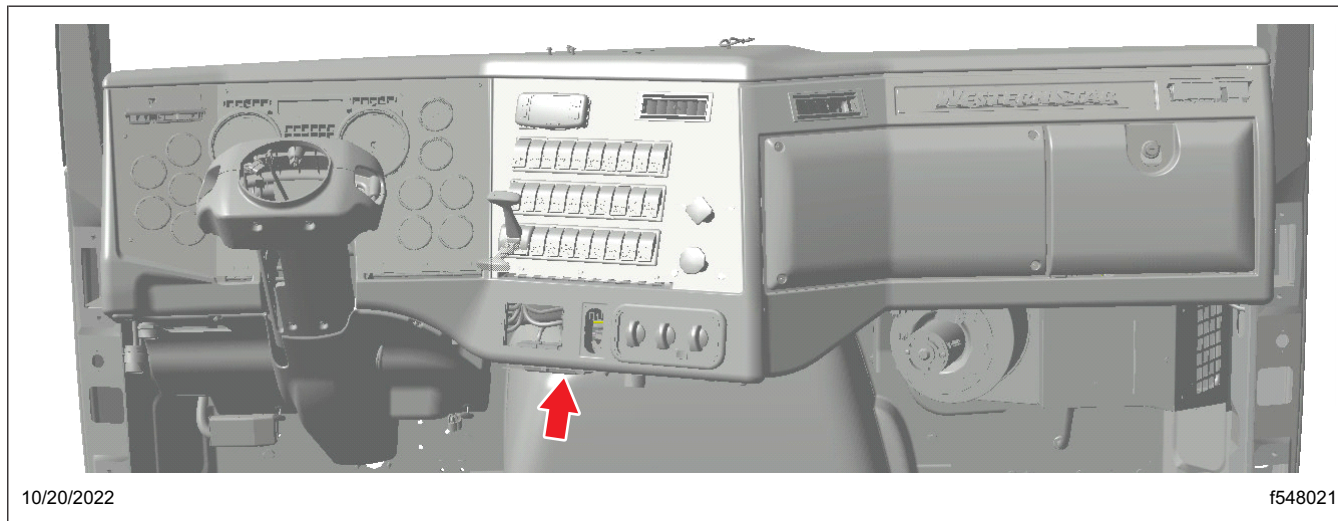

Fig. 22, IPPC Bracket Location
4. Check if the IPPC bracket is installed on the top of the engine cover. See Fig. 22.